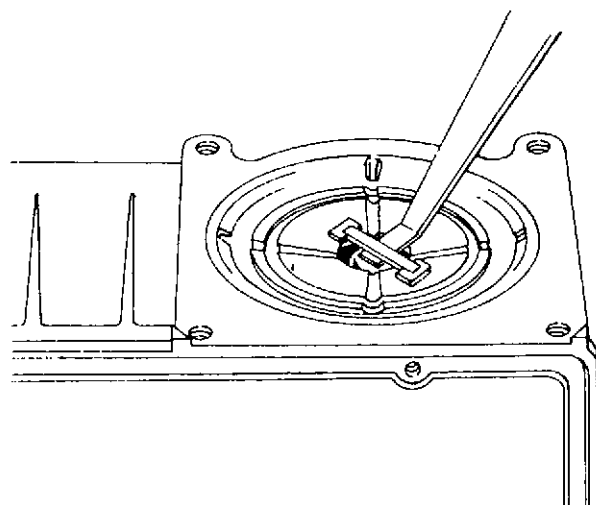

FIG. 40 Checking Pump Intake Ball Valve Clearance
2. If ball type, check ball clearance under retaining bar is proper (Figure 40).